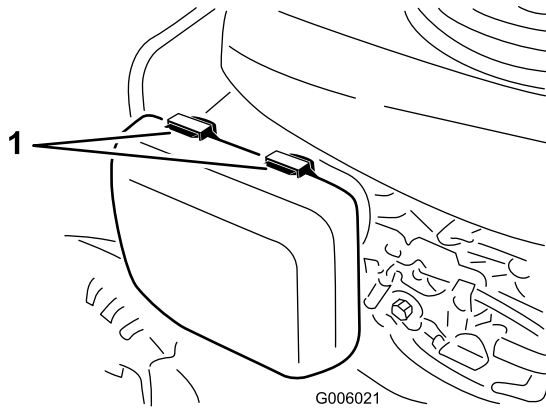

Figure 37
1. Press down on the latch tabs on top of the air cleaner cover (Figure 37).